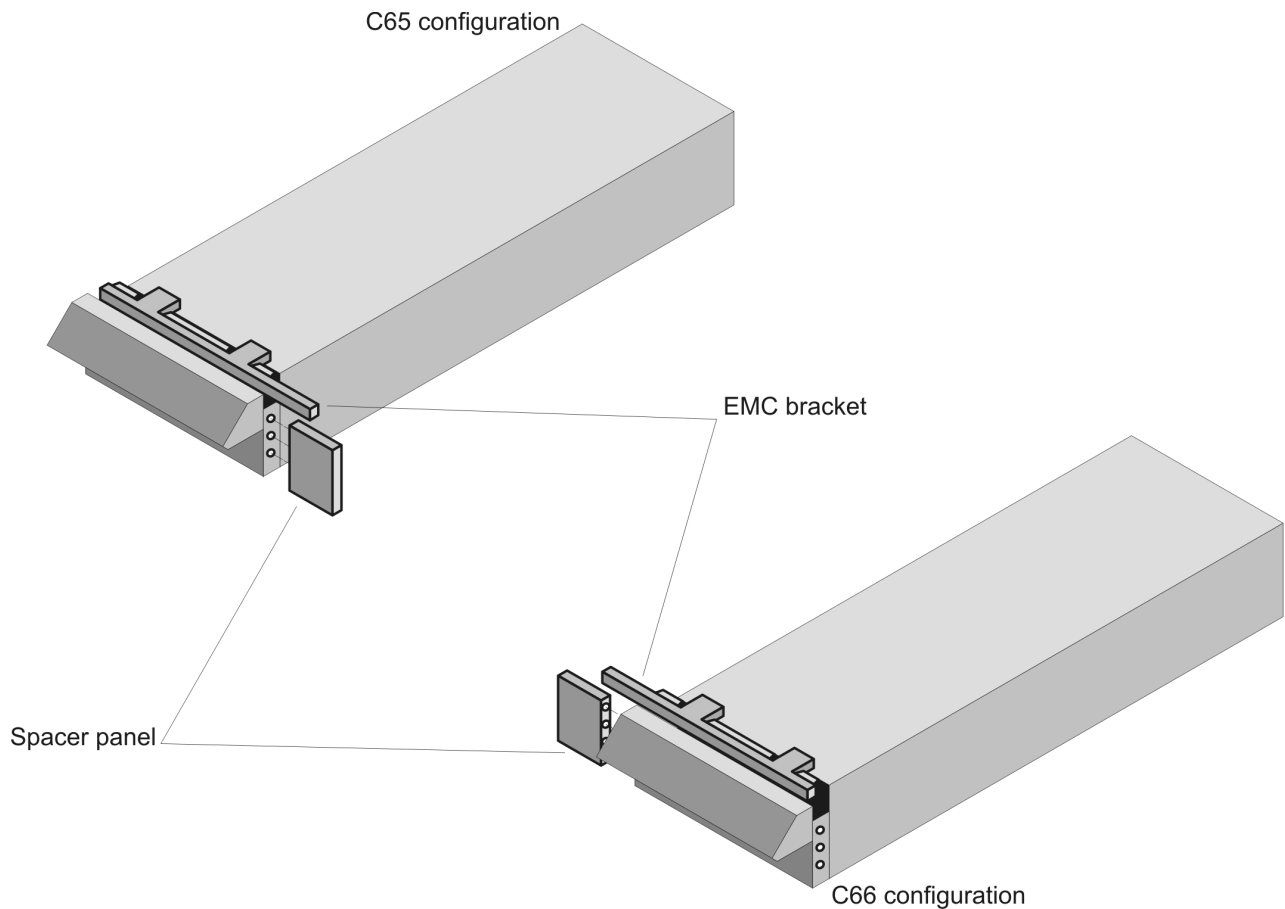

Figure 60. Spacer panel and EMC bracket orientations for FC 7910 slot locations
- Figure 60 on page 325 for the correct orientation of the spacer panel and EMC bracket for each slot location